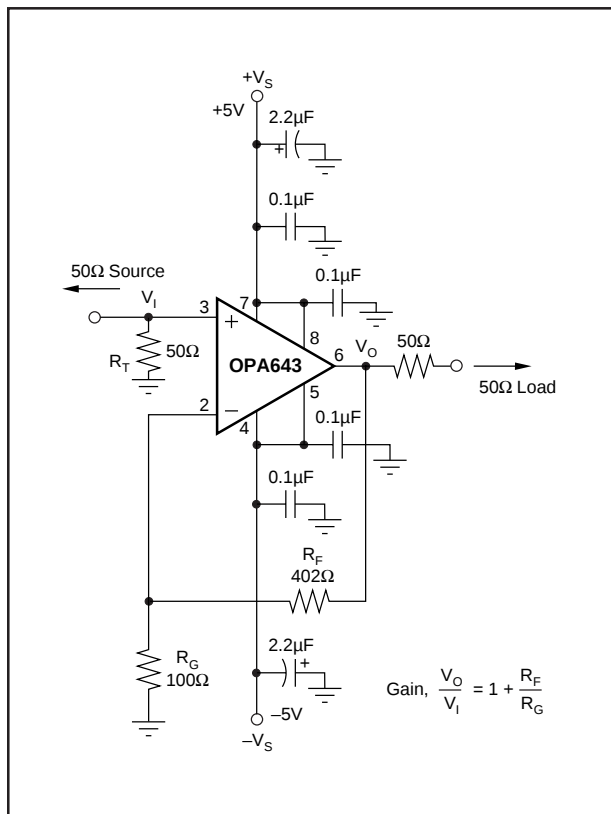

FIGURE 1. Gain of +5, High Frequency Application and Characterization Circuit (P or U Package).
The OPA643's combination of speed and dynamic range is easily achieved in a wide variety of application circuits, providing that simple guidelines common to all high speed amplifiers are observed. For example, good power supply decoupling, as shown in Figure 1, is essential to achieve the lowest possible harmonic distortion and smooth frequency response. Careful PC board layout and component selection will maximize the performance of the OPA643 in all applications, as discussed in the remaining sections of this data sheet.
Figure 1 shows the gain of +5 configuration used as the basis for most of the Typical Performance Curves. Most of the curves were characterized using signal sources with 50Ω driving impedance, and with measurement equipment presenting 50Ω load impedance. In Figure 1, the 50Ω shunt resistor at the V_I terminal matches the source impedance of the test generator, while the 50Ω series resistor at the V_O terminal provides a matching resistor for the measurement equipment load. Generally, data sheet specifications refer to the voltage swing at the output pin (V_O in Figure 1). The total 100Ω load from the series and shunt matching resistors, combined with the 502Ω total feedback network load, presents the OPA643 with an effective output load of approximately 83Ω.
To deliver the lowest possible distortion using the 8-pin SO-8 or DIP package, additional 0.1μF power supply decoupling capacitors on pins 5 and 8 are required. These are shown in Figure 1. Although pins 5 and 8 are internally connected to pins 4 and 7 respectively (the standard supply pins for 8-pin op amps), the additional capacitors help to decouple the package lead inductances and decrease the second-harmonic distortion for a 5MHz fundamental by approximately 4dB. The much shorter bond wires and supply leads of the SOT23-5 package give the best distortion performance while requiring only two power supply connections.
Since the OPA643 is a voltage feedback op amp, a wide range of resistor values may be used for the feedback and gain setting resistors (R_F and R_G in Figure 1). The primary limits to these values are set by dynamic range (noise and distortion) and parasitic capacitive considerations. Usually, the feedback resistor value should be between 200Ω and 1kΩ. Below 200Ω, the feedback network will present additional output loading which can degrade the harmonic distortion performance of the OPA643. Above 1kΩ, the typical parasitic capacitance (approximately 0.2pF) across the feedback resistor may cause unintentional band-limiting in the amplifier response.
A good rule of thumb is to target the parallel combination of R_F and R_G (Figure 1) to be less than about 200Ω. The combined impedance $R_F || R_G$ interacts with the inverting input capacitance, placing an additional pole in the feedback network and thus a zero in the forward response. Assuming a 3pF total parasitic on the inverting node, holding $R_F || R_G < 200\Omega$ will keep this pole above 250MHz. By itself, this constraint implies that the feedback resistor R_F can increase to several kΩ at high gains. This is acceptable as long as the pole formed by R_F and any parasitic capacitance appearing in parallel with it is kept out of the frequency range of interest. The exception to this is in wideband transimpedance applications as described earlier. There, a feedback pole is used to compensate for the zero formed by the input capacitance and the feedback resistor.
Generally, until the fundamental signal reaches very high frequencies or powers, the second harmonic will dominate the distortion with negligible third harmonic component. Focusing then on the second harmonic, increasing the load impedance improves distortion directly. Remember that the total load includes the feedback network—in the non-inverting configuration this is sum of $R_F + R_G$, while in the inverting configuration it is only R_F (Figure 1). Larger output voltage swings lead directly to increased harmonic distortion. A 6dB increase in output voltage swing will generally increase the second harmonic by 12dB and the third harmonic by 18dB. Higher signal gain settings will also increase the second harmonic distortion. A 6dB increase in voltage gain will raise the second and third harmonics by
Evaluating these two equations for the OPA643 component values shown in Figure 1 will give a total output spot noise voltage of $13.3nV/\sqrt{Hz}$ and a total equivalent input spot noise voltage of $2.7nV/\sqrt{Hz}$.
Narrowband communications systems are more commonly concerned with the Noise Figure (NF) for the amplifier. The total input referred voltage noise expression (Equation 2 above), may be used to calculate the noise figure. Equation 3 shows the noise figure expression using the E_N of Equation 2 for the non-inverting configuration where the input termination resistor R_T has been set to match the 50Ω source impedance (as shown in Figure 1).
Evaluating Equation 3 for the circuit of Figure 1 gives a Noise Figure = 15.9dB. Input transformer coupling can be used to reduce this noise figure. A broadband pulse transformer can provide both a noiseless voltage gain and a more optimum source impedance to minimize the noise figure. Figure 9 shows an example built from the circuit of Figure 1, in which the transformer turns ratio has been set to the closest integer for minimum noise figure. This optimum turns ratio is calculated by:
The OPA643 provides excellent DC signal accuracy due to the combination of high open-loop gain, high common-mode rejection, high power supply rejection, low input offset voltage and low bias current offset errors. The high grade (B) version of any package type provides less than 1.5mV input offset voltage. To take full advantage of this low input offset voltage, careful attention to input bias current cancellation is also required. The high speed input stage for the OPA643 has a relatively high input bias current (19μA typical into each input pin) but with a very close match between the two input currents—typically 100nA input offset current. The total output offset voltage may be considerably reduced by matching the source resistances which appear at the two inputs. For example, one way to include bias current cancellation in the circuit of Figure 1 would be to insert a 55Ω series resistor into the non-inverting input after the 50Ω terminating resistor, R_T . When the 50Ω source resistor is DC coupled, this will increase the source resistance for the non-inverting input bias current to 80Ω . Since this is now equal to the resistance appearing at inverting input ($R_F \parallel R_G$), the circuit will cancel the gains for the bias currents to the output, leaving only the offset current times the feedback resistor as a residual DC error term at the output. Using a 402Ω feedback resistor, this output error will now be less than $3\mu A \cdot 402\Omega = 1.2mV$ over the full temperature range.
As a worst case example, compute the maximum T_J using an OPA643N (SOT23-5 package) in the circuit of Figure 1 operating at the maximum specified ambient temperature of $+85^\circ\text{C}$. $P_D = 10\text{V} \cdot 26\text{mA} + 5^2 / (4 \cdot (100\Omega \parallel 502\Omega)) = 335\text{mW}$. Maximum $T_J = +85^\circ\text{C} + (0.335\text{W} \cdot 150^\circ\text{C/W}) = 135^\circ\text{C}$.